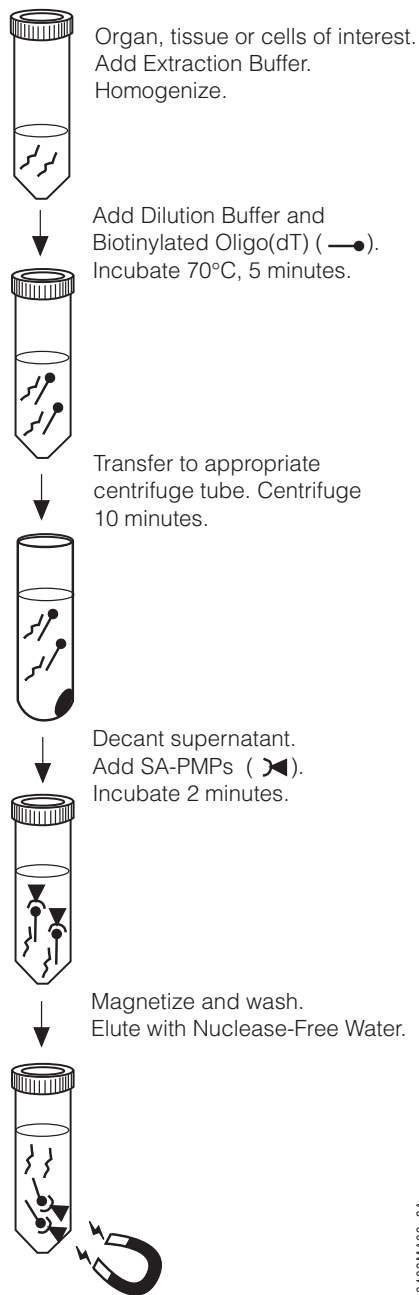

Figure 1. Schematic diagram of the PolyATtract® System 1000 Protocol.
The PolyAtract[®] System 1000 forgoes lengthy ethanol precipitation steps, phenol:chloroform extractions, overnight ultracentrifugation through cesium chloride gradients and lithium chloride (LiCl) precipitations (Figure 1). Increased mRNA yields are obtained because losses that occur during the organic extractions and precipitations are eliminated. The isolated mRNA is suitable for all molecular biology applications, including in vitro translation,
The PolyAtract® System 1000 combines the disruptive and protective properties of guanidine thiocyanate and β -mercaptoethanol to inactivate ribonucleases present in cell extracts (1). Guanidine thiocyanate (GTC), in association with SDS, acts to disrupt nucleoprotein complexes, allowing RNA to be released into solution and isolated free of protein. The final GTC concentration allows hybridization of the poly(A) sequence of most mature eukaryotic mRNA species to the synthetic Biotinylated Oligo(dT) Probe, yet maintains complete inhibition of cellular RNases. Hybridization occurs during the brief centrifugation step that removes cellular debris and precipitated proteins. After centrifugation, the Biotinylated Oligo(dT):mRNA hybrids are captured with Streptavidin MagneSphere® Paramagnetic Particles (SA-PMPs). The particles are washed at high stringency, and purified mRNA is eluted by the simple addition of Nuclease-Free Water (Cat.# P1193). This procedure yields an essentially pure fraction of mature mRNA after only a single round of magnetic separation, without organic extractions or precipitations. A summary of the procedure is provided in Figure 1.